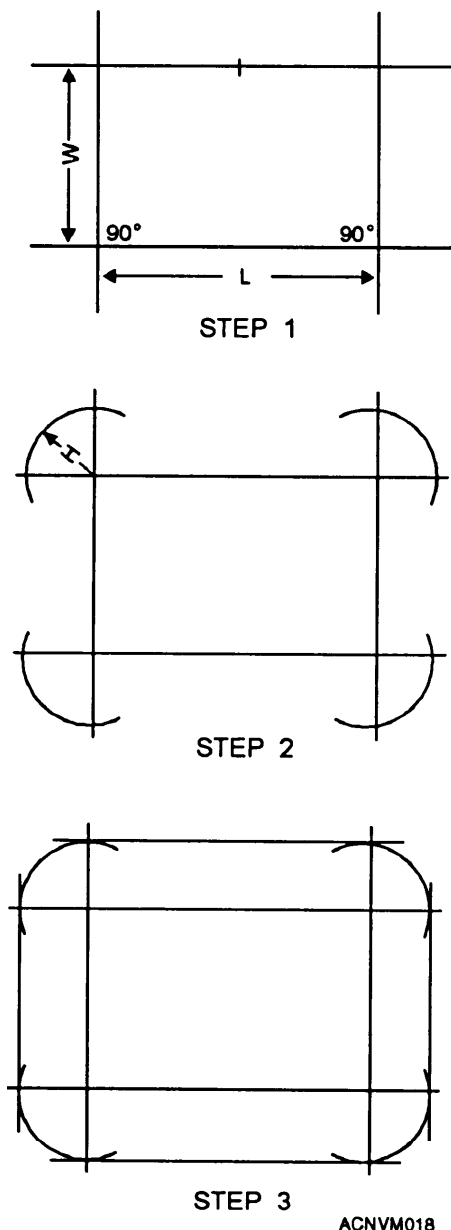

Figure 12-18.—Laying out a drip pan with dividers.
Step 1. Draw a base line. (See fig. 12-18.) Select a point on this line for one corner of the drip pan layout. Erect a perpendicular through this point to form a 90-degree angle (W in fig. 12-18).
Now, measure off on the base line the required length of the pan (L in fig. 12-18). At this point erect another perpendicular. You now have three sides of the stretchout. Draw the fourth side parallel to the base line, connecting the two perpendiculars that you have erected. The fourth side will be drawn at a distance from the base line equal to the width of the drip pan.
a point, swing a wide arc like the one shown in the second step in figure 12-18.
Step 3. Extend the end and side lines as shown in the last step in figure 12-18, and complete the stretchout by connecting the arcs with a scribe and straightedge.